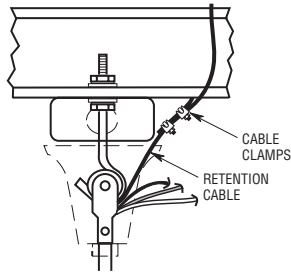

Figure 7
- 2. Lift the fan onto the J-hook and position as shown in Figure 7. Make sure the motor wires and retention cable at the top of the hanger pipe are positioned behind J-hook as illustrated in Figure 7.
CAUTION: The electrical wires and retention cable must not be placed between the rubber roller and the hook, but rather as illustrated in Figure 7.